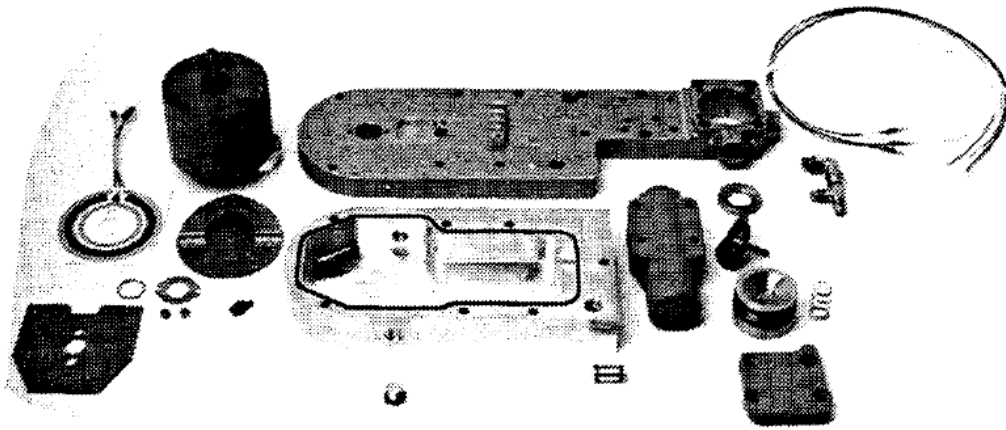

Figure 3. New Side Plate and Associated Parts
**Side Plate (see Figures 3 and 4)**